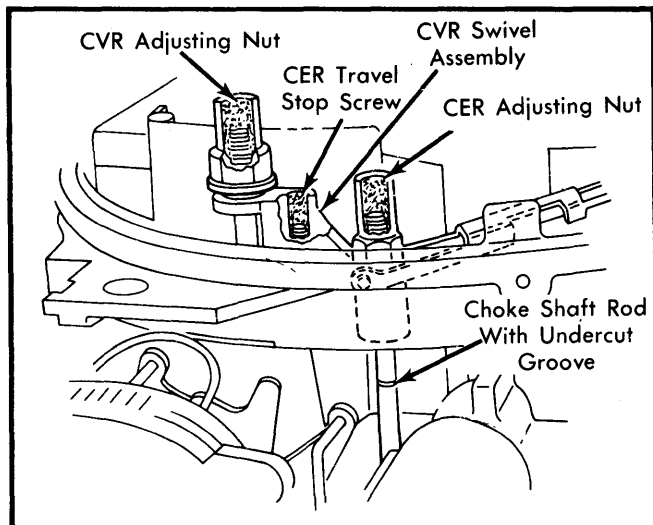

Fig. 5 Adjusting Control Vacuum Regulator Swivel Assembly
4) Rotate thermostat lever clockwise until CER travel stop screw is bottomed on upper body. Turn CER travel stop screw until dial indicator reading is within the "CER 0° F Start" specification. See Fig. 5.